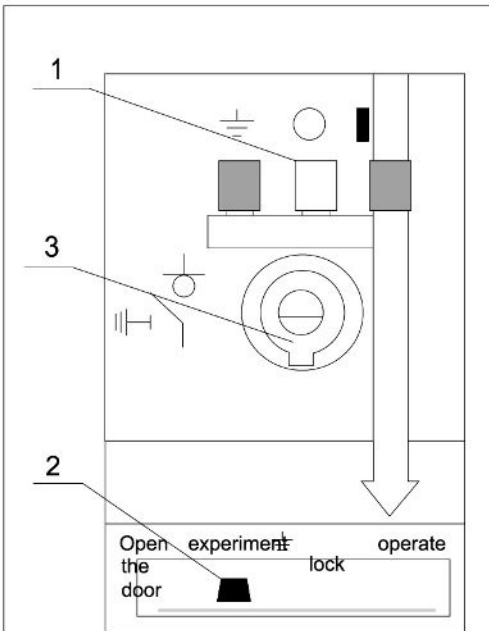

Figure 7
Place the load switch location indicator to the site shown in the Figure7 (1). The selector is placed on the test site, shown in Figure7 (2). Check the shaft ratchet which should be downwards as indicated in Figure7 (3). Insert the operation handle to the slot, then make the guidance key match the slot shafting, turn it with approximately 80 degrees clockwise until it is on the earthing site.